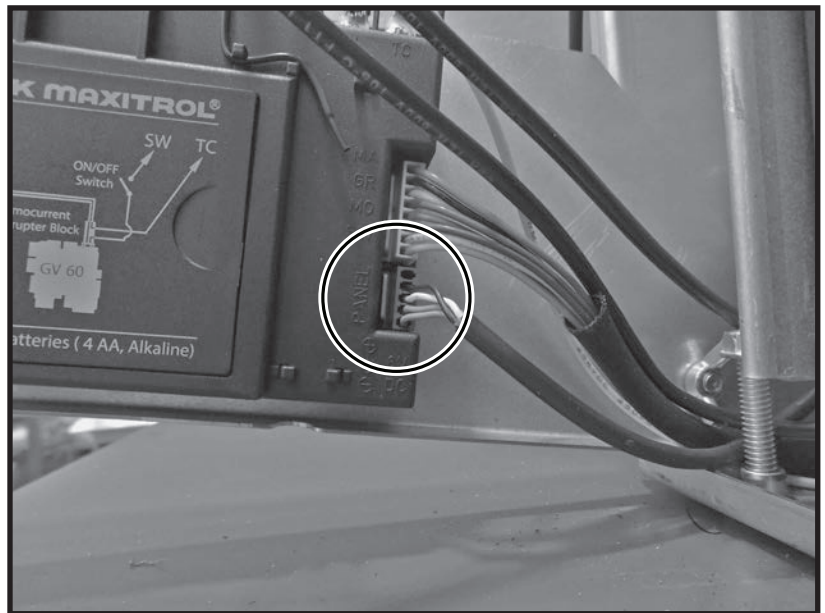

Figure 86: Switch connector at control module.
1. Check that the ON/OFF Switch cable is plugged into the Maxitrol module as shown in (Figure 86).